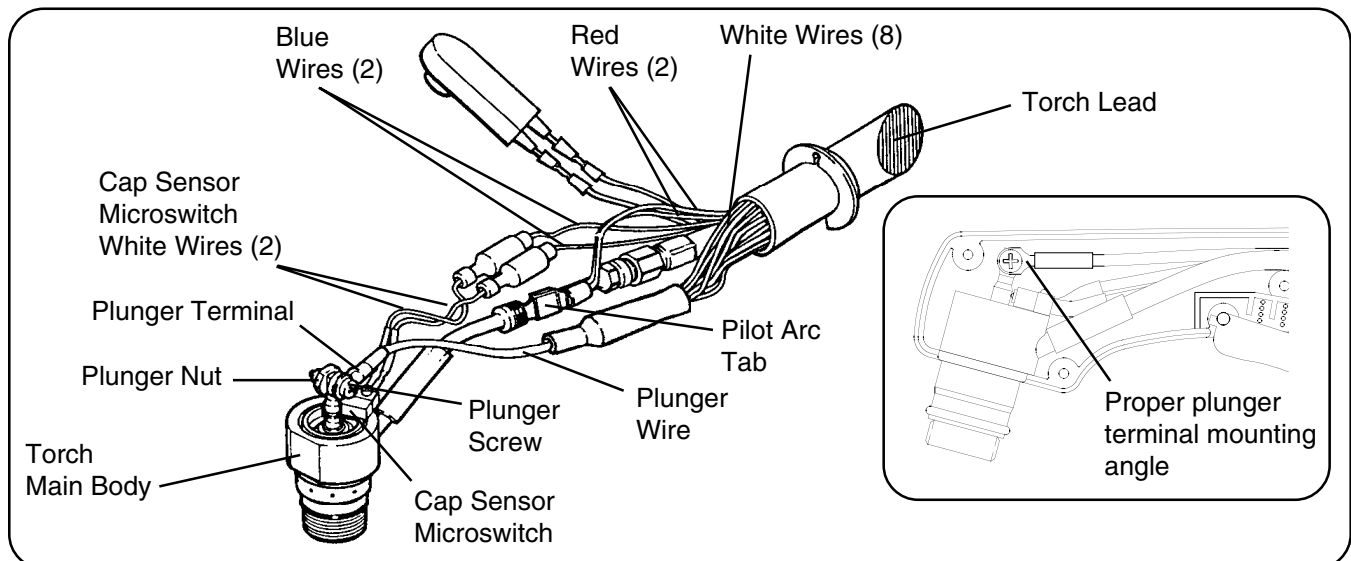

Figure 5-3 PAC121TS Torch Main Body Removal
To remove and replace the torch main body, order the torch main body with cap-on sensor switch and refer to the following procedure and Figures 5-3 and 5-4.
3. Remove the red wires attached to the pilot arc tab (Fig. 5-3).
4. Disconnect the two lead terminals (blue wire in each terminal) from the two white wires of the cap sensor microswitch (Fig. 5-3).
5. Disconnect the plunger wire from the torch main body by holding the plunger nut with a 1/4" (6mm) wrench or nut driver and removing the plunger screw (Fig. 5-3).
7. Replace the new torch main body by reversing these instructions. Note: When connecting the plunger wire, be certain to keep the plunger wire terminal at the proper angle as shown in the Fig. 5-3 inset. Tighten the plunger screw with 8 lb-in (9 kg-cm) of torque.